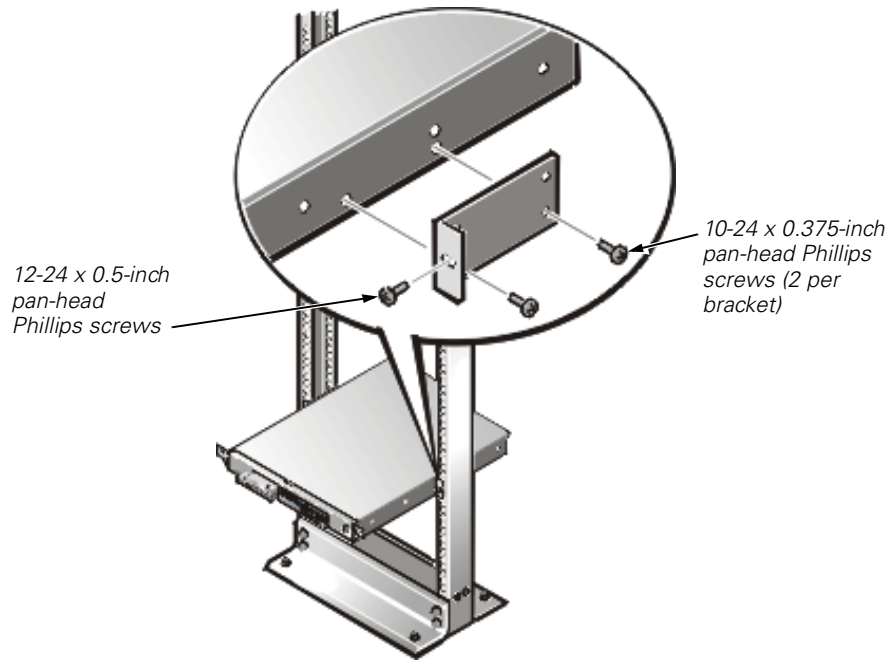

Figure 1-3. Securing the System in the Rack
1. Locate one of the two brackets and align it over the two threaded holes on the side of the system (see Figure 1-3).
2. Secure the bracket to the system chassis using two 10-24 x 0.375-inch screws (see Figure 1-3).
2. Secure the system to the rack using a 12-24 x 0.5-inch screw through the mounting bracket to the front of the left and right posts (see Figure 1-3).